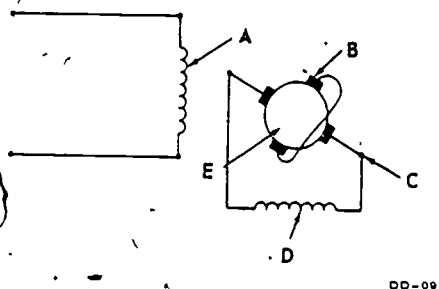

Figure 24
- Major components of figure 24 are: